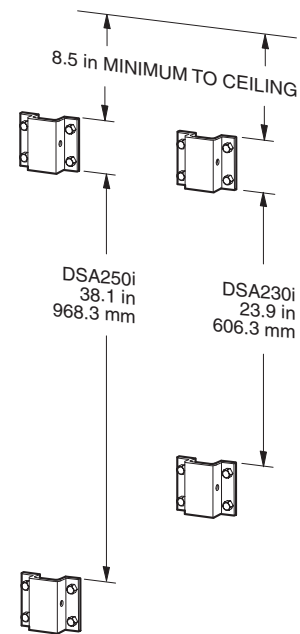

Figure 5.6.7a Wall Bracket
1. Spacing between the Wall Brackets for a single module must be within 0.1 in / 3 mm of the dimensions in Figure 5.6.7a. In order to lift a module onto its wall brackets, spacing between the top wall bracket and ceiling, or other overhead obstruction, must be 8.5 inches minimum.